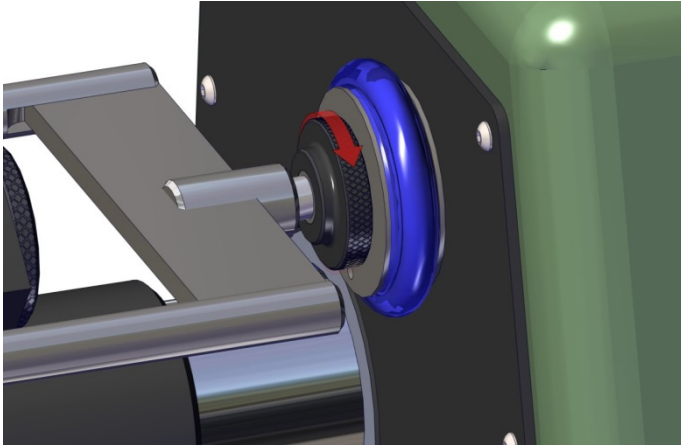
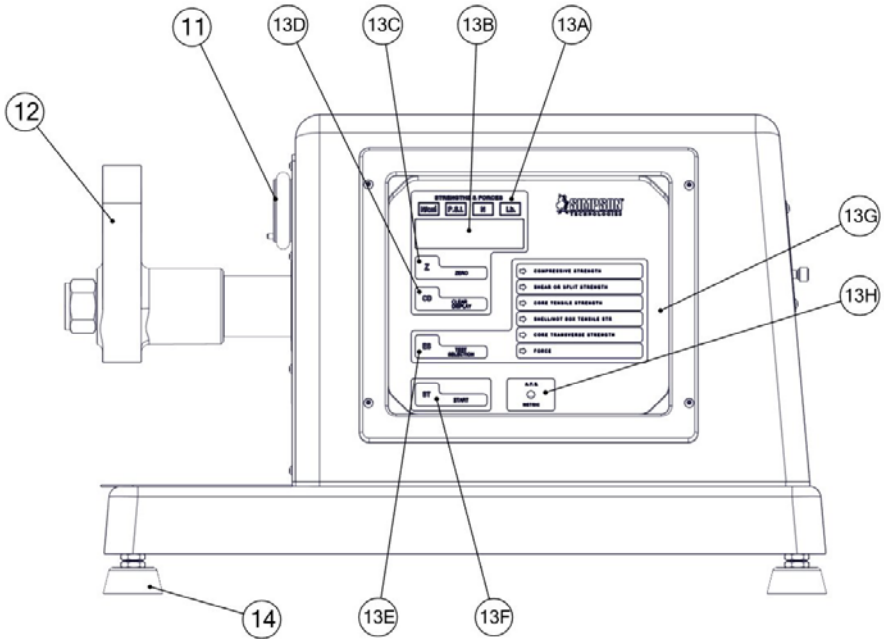

Figure 5.1.3
Figure 5: Front View - Electronic Universal Sand Strength Machine (Model 42104)
9. Adjust the knurled bridge nut located on the bridge (Figure 5.1.3) until the flat surface of the bridge nut facing the stationary clamp holder (Figure 5, Item 11) is approximately 1/16" (1mm) away from the surface of the stationary clamp holder.